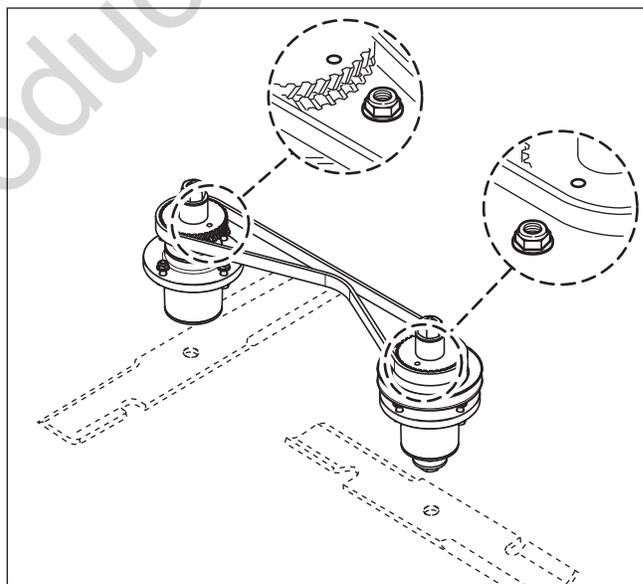

Figure 47. Blade Alignment
9. Refer to Figure 47. Align the holes in the sprockets with the spindle mounting hardware as shown. The blades will be perpendicular to each other.